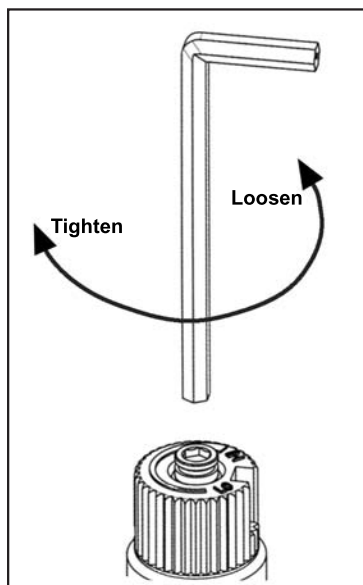

Figure 10: Removing valve screw.
b) Insert a $\frac{5}{32}$ " or 4 mm Allen wrench into the hexagonal key-way of the screw (see Figure 10), rotate it counter-clockwise until it is free and extract it.
e) Using the Allen wrench as shown in Figure 10, rotate the screw clockwise until a torque of 9 inch lbs. **WARNING!** Do not over tighten the screw. It is recommended that you grip the wrench by the short side.